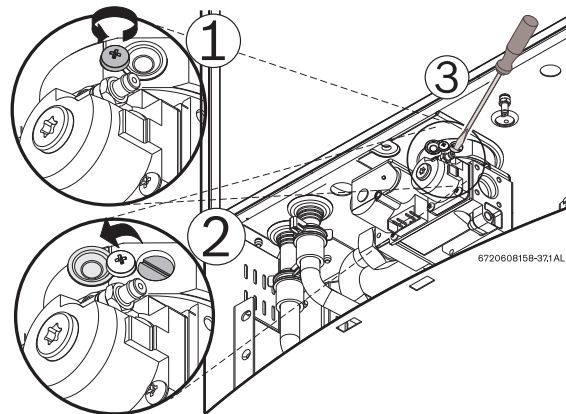

Fig. 70 Adjusting P1 CO₂ level
- Loosen yellow painted Phillips screw (1) and cover should rotate down (2) revealing a recessed brass slotted screw. Fig. 70.